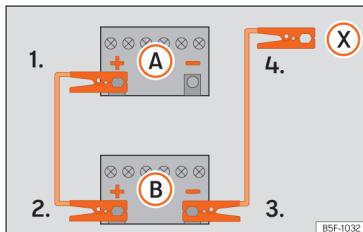

Fig. 43 Diagram of connections for vehicles without Start-Stop system.
2. Connect one end of the *red* jump lead to the positive (+) terminal of the vehicle with the flat battery (A) » » Fig. 43.
3. Connect the other end of the *red* jump lead to the positive terminal (+) in the vehicle providing assistance (B).
- 4a. *In vehicles without a Start-Stop system:* connect one end of the *black* jump lead to the negative terminal (-) of the vehicle providing the current (B) » » Fig. 43.